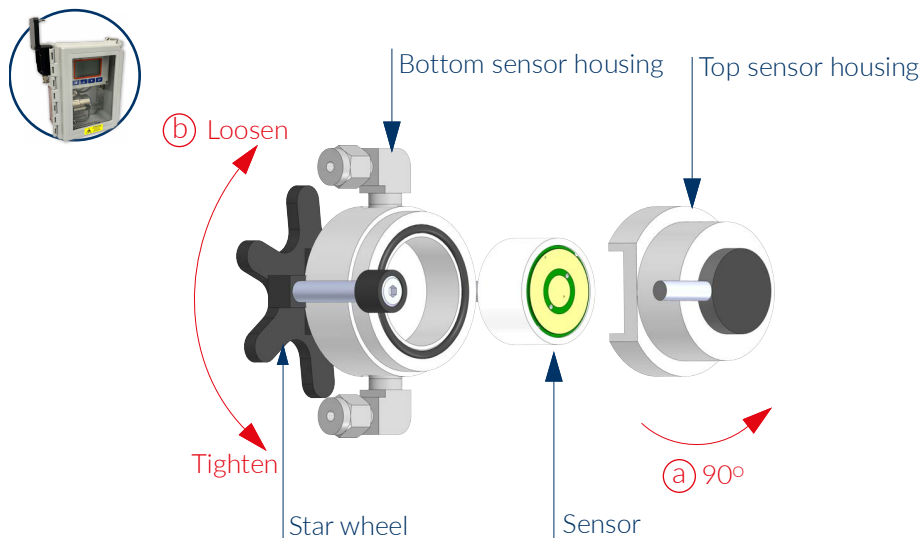

Figure 4. Installing and uninstalling your sensor (GPR-1500)
3. Open the sensor housing (refer to Figure 4 below for guidance).
8. Secure it with the star wheel at the bottom of the housing assembly (refer to 'b' in Figure 4 on page 12).